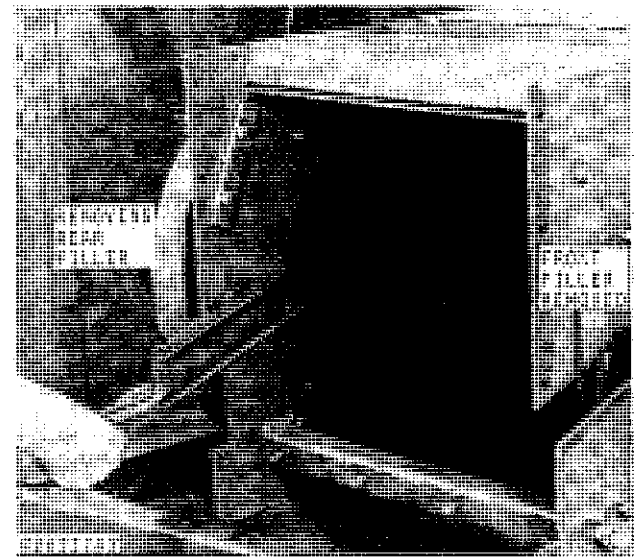

Fig. 14-Removing Filler Plates
**CAUTION:** When removing rotor assembly (Fig. 14), leave the bearing housing bolted to hammer mill until hoist is connected to rotor shaft.